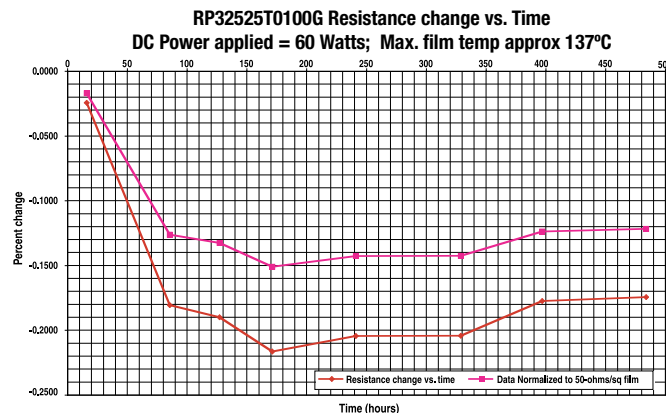

Figure 7: Percent resistance change of TaN resistors with applied DC power
What now of aging effects due to the application of a DC voltage? **Figure 7** shows the average measured change in resistance of three 100-ohm, 60-Watt resistors selected at random from a production run and DC power-aged – this time exactly in accordance with MIL-PRF-55342 – for 490 hours. The top curve shows the raw data; maximum resistance change was about -0.22%. The lower curve shows the data normalized to a 50-ohms/square resistivity, i.e., the resistance change was scaled by the ratio of actual film resistivity, 72 ohms/square, to 50 ohms/square using equation (1). The meaning of the scaling here is ambiguous, since resistance change is now seen to occur as a result of two separate effects: Heating – to which resistivity scaling applies by virtue of (1) – and a DC voltage sensitivity resulting from unknown causes. The latter phenomenon is common in thick films and is believed to result from an agglomeration of small conductive particles, under the application of a DC potential, into lower resistance larger particles. However, a corresponding thin-film mechanism does not seem to be reported in the available literature. Nevertheless, AVX has observed it experimentally on substrates from a number of different vendors and having a variety of surface roughnesses. The salient feature is that this effect causes resistance to decrease with time, whereas thermal effects cause it to increase. We can infer from Fig. 7 that the DC aging effect dominates for the first 170 hours, after which the thermal effect becomes significant. The fact that the two phenomena yield resistance departures in opposite directions helps to generate good results on the Mil spec test – although it must be cautioned that AC-only use could produce greater changes. Absent specific knowledge of customer use, AVX performs its standard aging test with DC applied per the Mil spec.